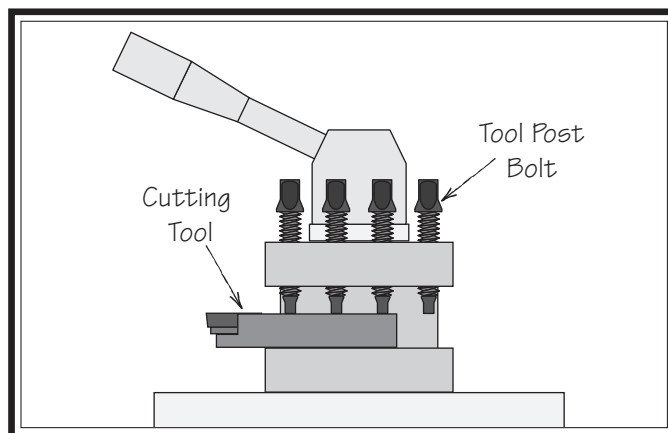

Figure 59. Example of tool mounted in tool post.
1. Adjust the tool post bolts so that the cutting tool can fit underneath them (see **Figure 59**).